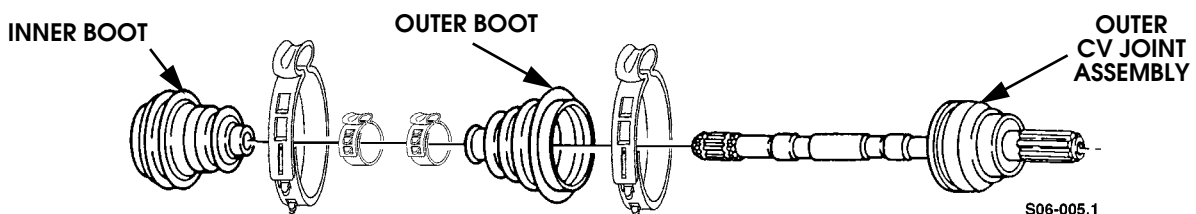

Figure 9-47: Halfshaft Boot Replacement
6. Position two clamps on shaft (Figure 9-47).